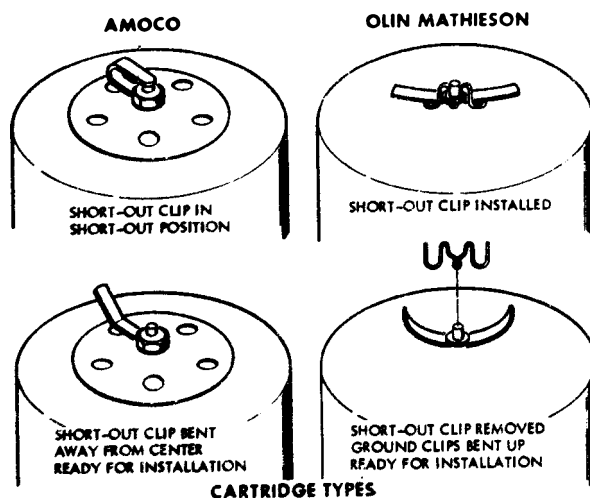

Figure 9-23. Shorting Out Engine Starter Cartridges
d. Engine starter cartridges. Aircraft carry both operational (located in the starter breech) and spares. They do not have to be present, but the locations should be checked to be sure. Spare cartridges should still be packaged in their original containers. If a cartridge is not in its container, be sure it is shunted out before handling. (figure 9-23)